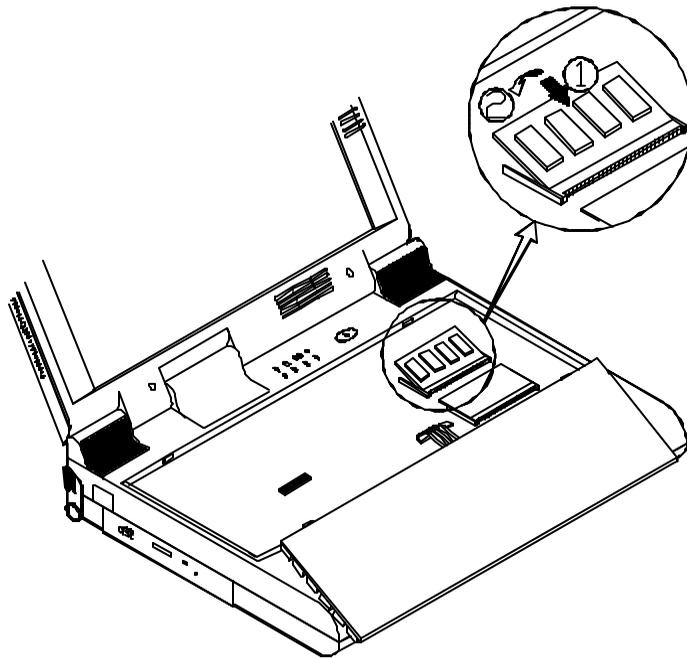

Figure 2-6
4. Position the memory module at a slight angle and fit its connectors into the socket firmly. Push the module down and ensure it locks into place (Figure 2-6).